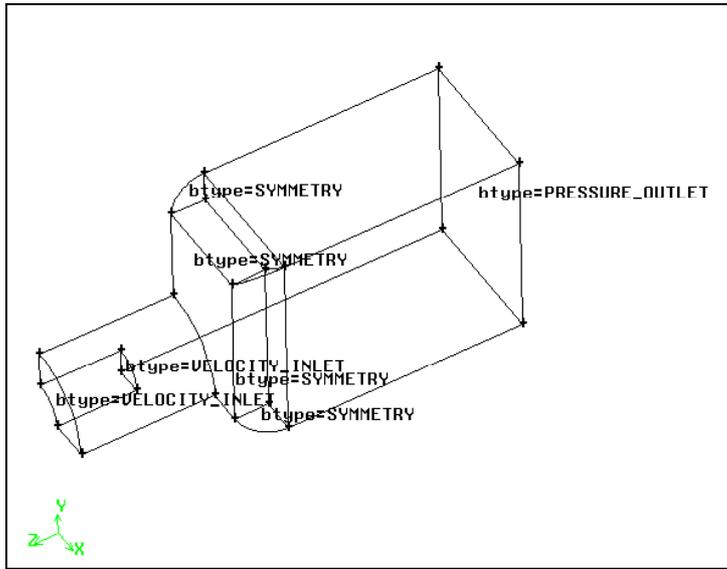

Figure 4-37: Boundary types for the combustion chamber
*The velocity inlet, pressure outlet, and symmetry boundaries for the 3-D combustion chamber are shown in Figure 4-37. To display the boundary-type labels in the graphics window, select the **Show labels** option on the **Specify Boundary Types** form. To display colors associated with each boundary-type assignment, select the **Show colors** option. (**NOTE:** GAMBIT automatically shades the faces for the **Show colors** option.)*